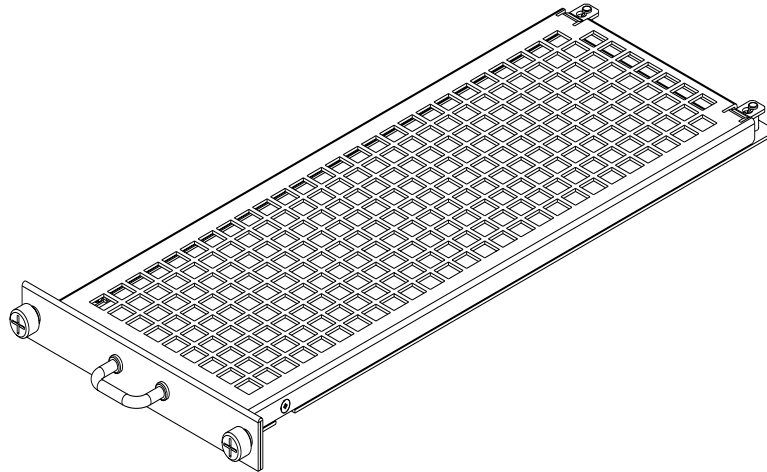
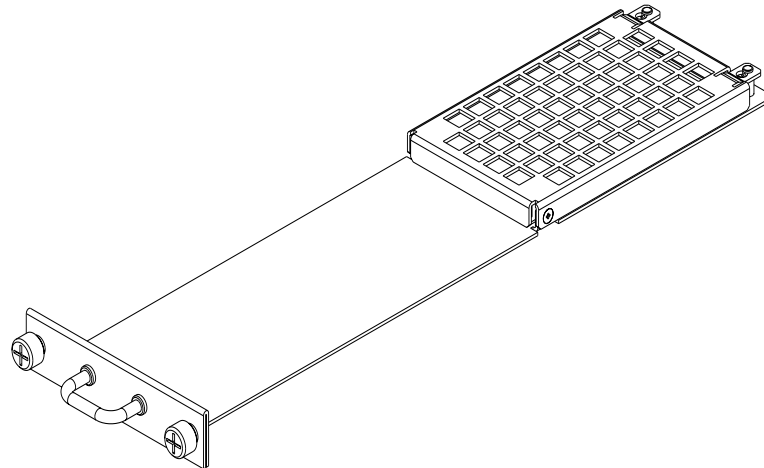

FIGURE 12-15 Large Filter Tray
FIGURE 12-16 Small Filter Tray
1. **Unscrew the two thumbscrews on the front of the tray (see FIGURE 12-15 and FIGURE 12-16)**